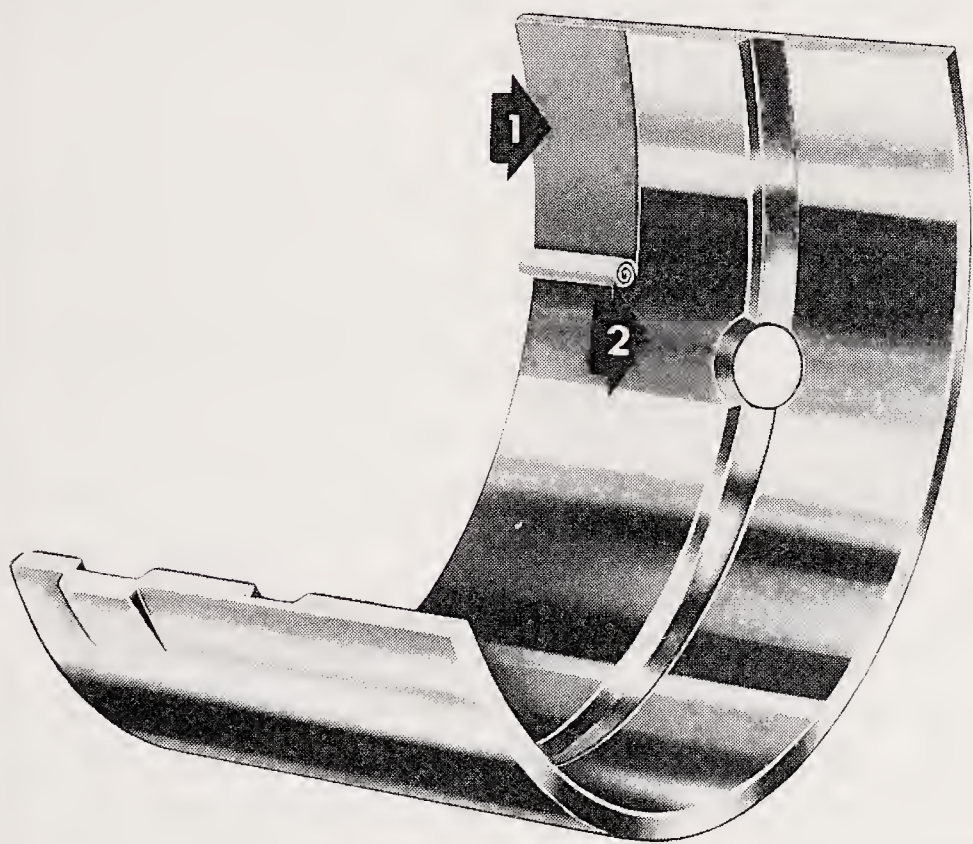

Figure 17-5. Construction of a typical precision insert bearing. 1—Steel back. 2—Cast babbitt (about .004" thick). (Clevite Corp.)
The thin lining material on removable bearing inserts can be lead-tin babbitt, aluminum, or copper-lead-tin. **Figure 17-5** shows a steel-backed insert (1) that is coated with cast babbitt (2). This type of bearing is called a *precision* insert because it is made to an exact size for proper fit.